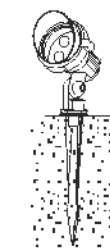

图 2/Picture 2
- 2、将灯体安装到固定件上,如图2所示,并固定牢固。
2. Install the lamp body to fixed pieces, as shown in figure 2, and fixed tightly.